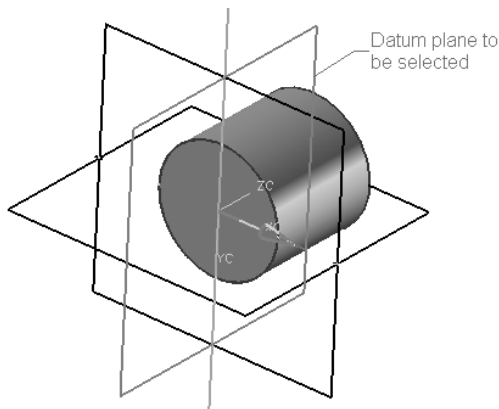
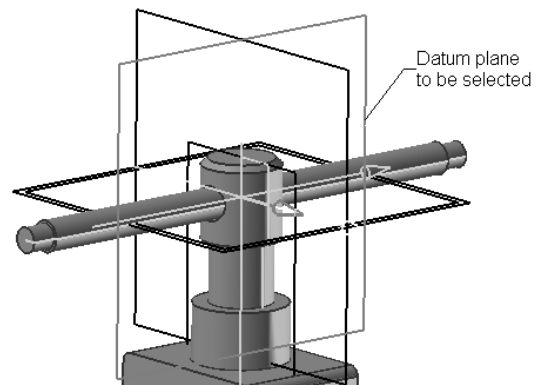

**Figure 8-64** Cylindrical face to be selected from the Handle Stop
**Figure 8-65** Cylindrical face to be selected from the Handle
7. Select the cylindrical face from the Handle Stop, as shown in Figure 8-64 and select the cylindrical face of the Handle, as shown in Figure 8-65.